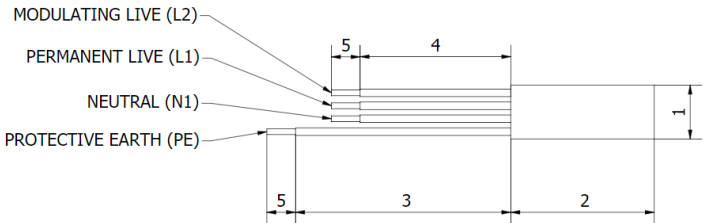

Figure 10: Wire length preparation diagram
- The mains power cable to the Sunamp Controller should be a minimum of 2.5mm², 4 core HO5 VV-F sheathed cable, to BS 6500. This cable must be prepared according to Figure 10 (below), where the Green/ Yellow (Protective Earth) cable is 15 mm than the Brown (Permanent Live), Black (Modulating Live) and Blue (Neutral). Please note that Figure 10, only relates for the Heat Battery terminal connections for information on the Solar Power Diverter connection, please refer to (Section 3.9).
- Prepare if necessary and wire the mains power cable in the following Heat Battery terminals (Figure 10 & 13.3):
- Prepare if necessary and wire the mains power cable in the following terminals (Figure 10 & 14.2):